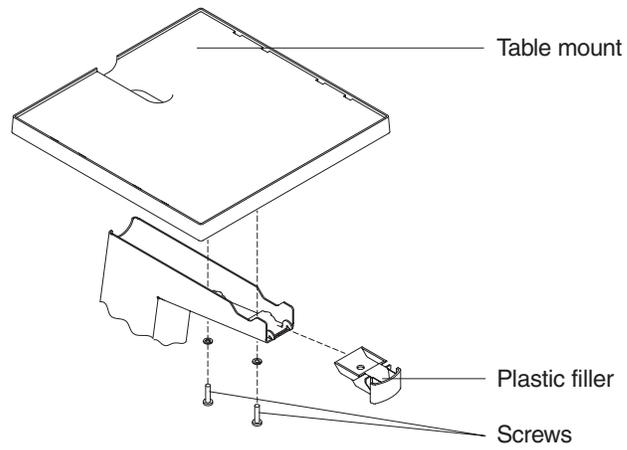

Figure 34. Table mount attached to post mount
4. Remove the two screws that attach the table mount to the post mount (see Figure 34 on page 33).